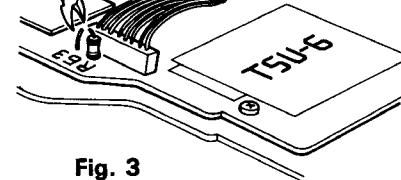

Fig. 3
7. Cut the resistor shown in the Fig. 3.